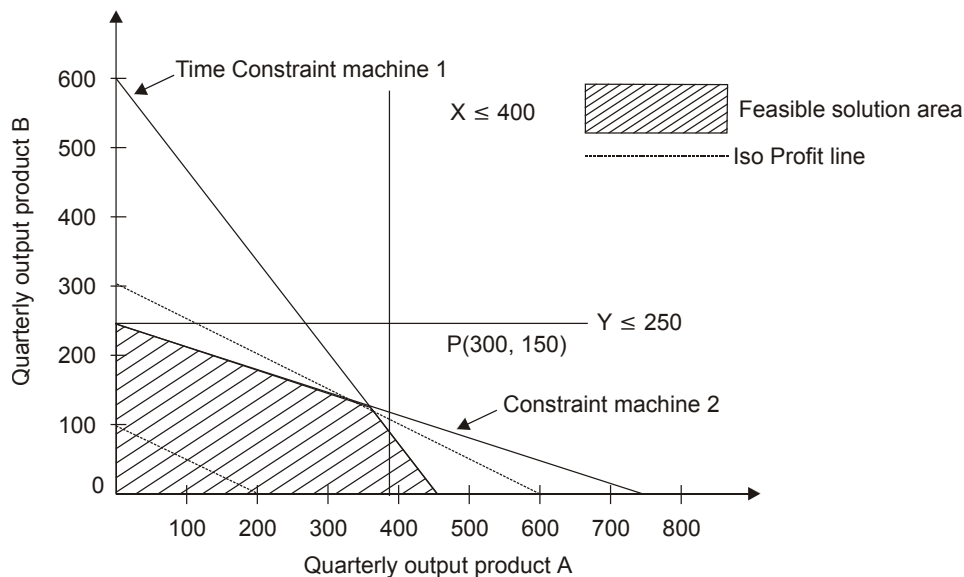

Fig. 3.1
Step 2. Plot the constraint equations in the graph as shown in Figure 3.1.
Step 3. *Identify the area of feasible solutions* as shown by the shaded area in Figure 3.1.